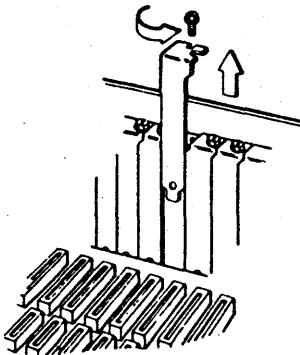

Figure 4: Removing a Slot Cover
4. Locate a vacant expansion slot and remove the slot cover as shown in Figure 4: